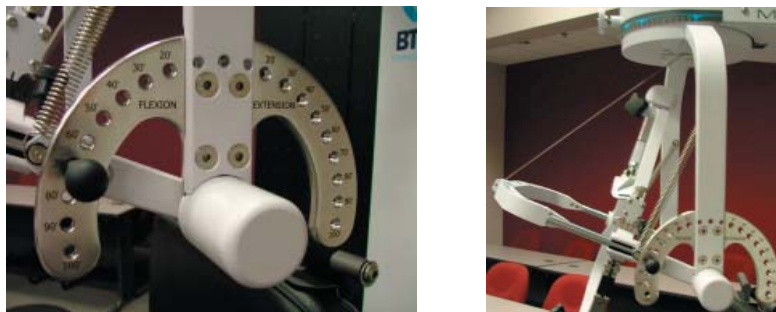

Figure 5-10. Halo at 70° Flexion
Step 9. Remove the ROM stop pin, set the halo flexion/extension angle to 70 degrees flexion, and then insert the ROM stop pin (Figure 5-10). Click **OK** on the calibration screen.